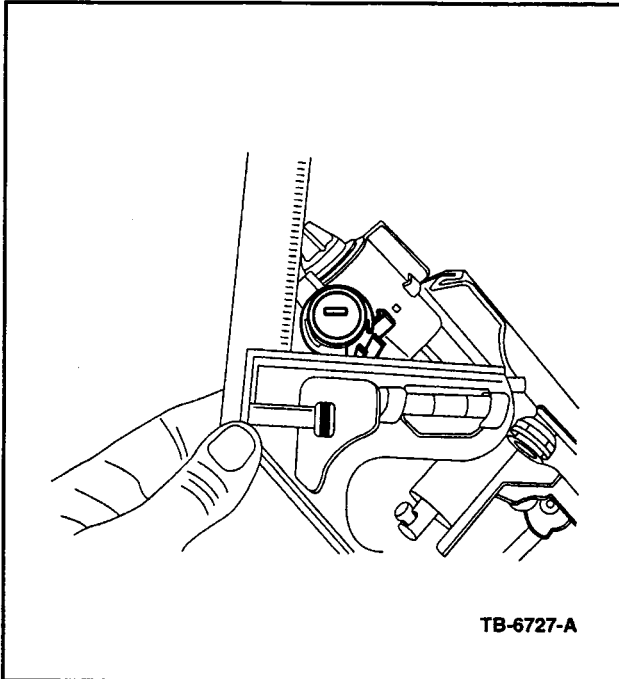

Figure 1 - Article 02-18-2
3. Draw a line through the middle of the ILC face 90 degrees to the key slot (Figures 1 and 2).